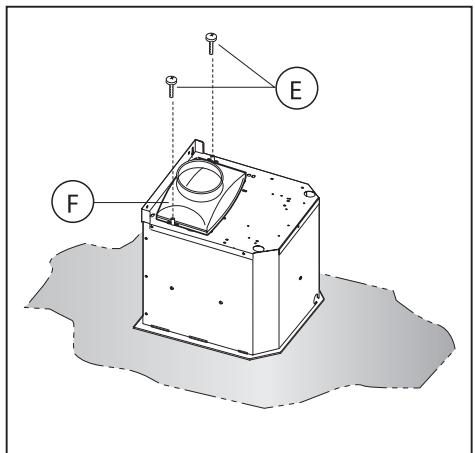

Fig.7
- If your product is fitted with a connector flange, perform the assembly steps indicated in fig. 7 before fixing the cooker hood to the structure. Take connector flange **F** and fit it to the upper part of the cooker hood suction assembly using the 2 screws **E** (Fig.7).